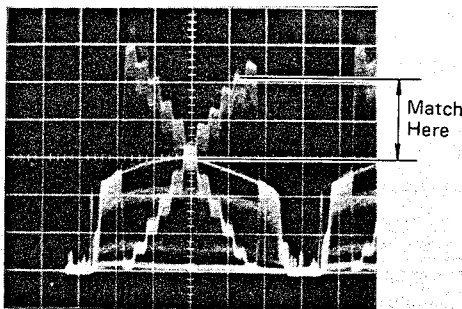

Fig. 6-4-38
- Adjust BLUE TRACKING-3 VR315 so that the B signal matches the  $Y_L$  signal in the 8th~9th step of gray scale waveform. (Fig.6-4-38)